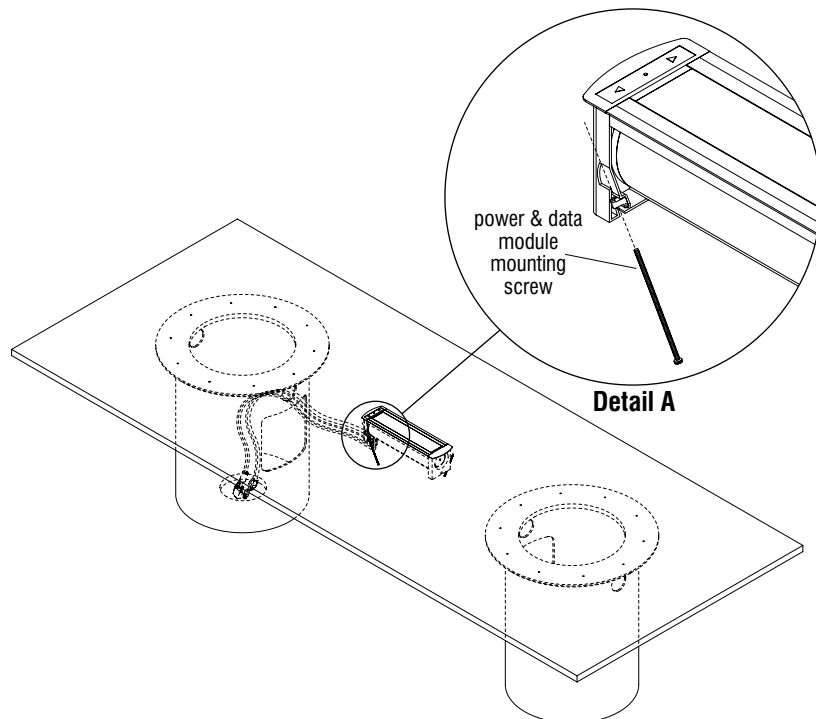

Figure 2
3. From underneath the table top, twist two power and data module screws through the brackets located on the opposite corners of the module. Gently tighten both screws evenly until the module is secured against the table (Figure 2).